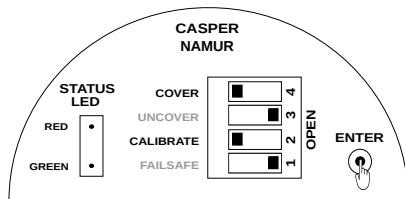

Figure 58: Setting Calibration
- Press and hold ENTER key, the STATUS LED will glow in RED color as shown in Figure 58.